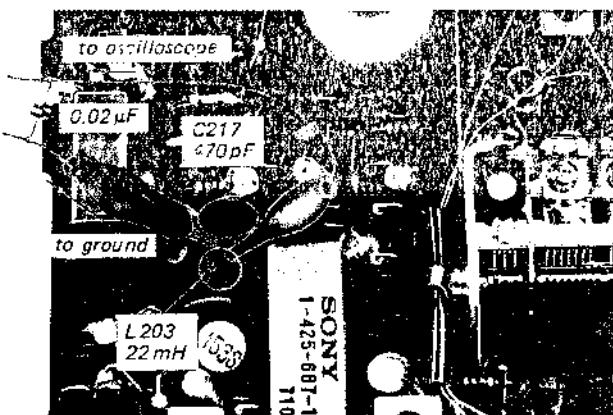

Fig. 3-3. Fm discriminator output connection
1. Connect the input cable of the oscilloscope with alligator clips to C217 and ground on the fm (a-m) front end/i-f amp/MPX board, and solder a $0.02\mu\text{F}$ capacitor across these clips, as shown in Fig. 3-3.